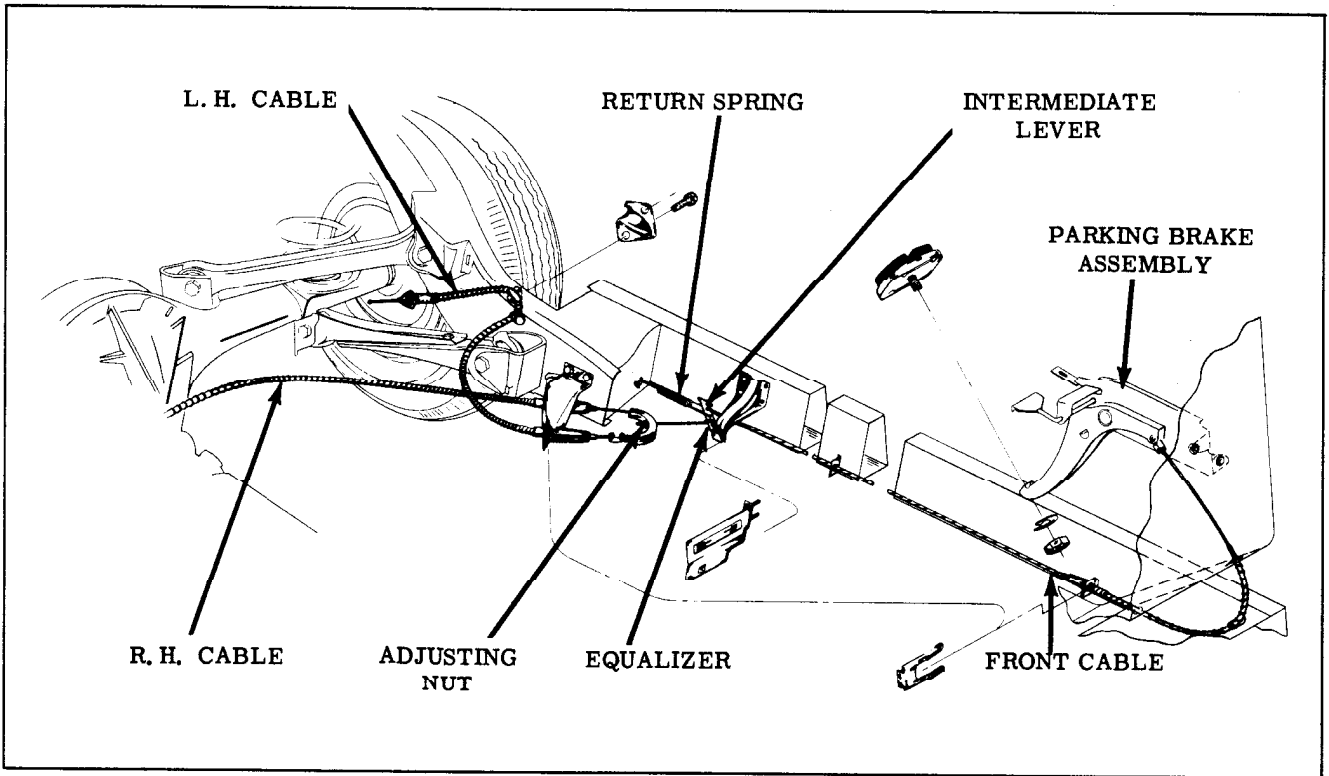

Fig. 7-3 Parking Brake Linkage
PARKING BRAKE ADJUSTMENT (Fig. 7-3)
3. Adjust rear cables by first tightening equalizer adjusting nut until a heavy resistance is felt at rear wheels, then loosen equalizer adjusting nut 10 full turns and tighten lock nut. (Fig. 7-3)